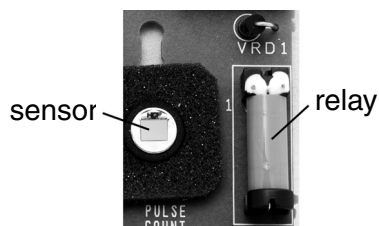

Fig. 3
- (ii) The output of the sensor is switched using a relay shown in Fig. 3.